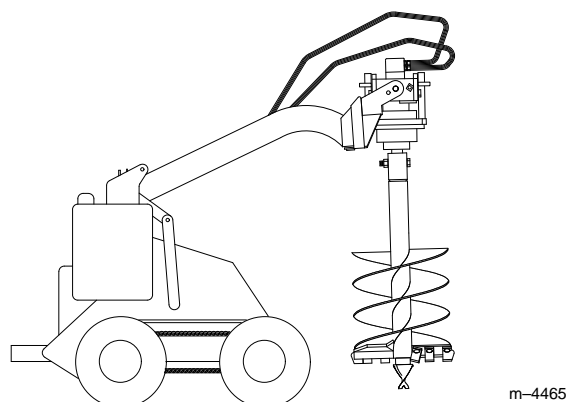

Figure 9
14. Raise the auger free of the ground (Fig. 9).
15. When the auger is vertical, tilt the attachment plate rearward, until the drive head contacts the attachment plate to stabilize the auger and keep it from swinging freely (Fig. 9).